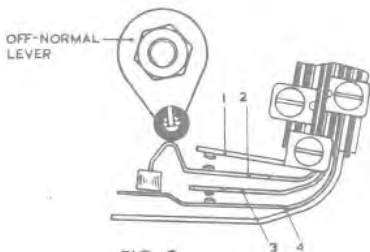

FIG. 9
- .1 The switching lever should be adjusted so that in the normal position, it rests at the top of the set in the first lever spring (see Fig 9).